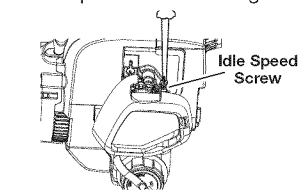

Fig. 23
The idle speed of the engine is adjustable. An idle adjustment screw is between the air filter cover and the engine starter housing (Fig. 23).
2. Release the throttle trigger and let the engine idle. If the engine stops, insert a small phillips screwdriver into the idle adjustment screw (Fig. 23). Turn the idle speed screw clockwise 1/8 of a turn at a time (as needed) until the engine idles smoothly.